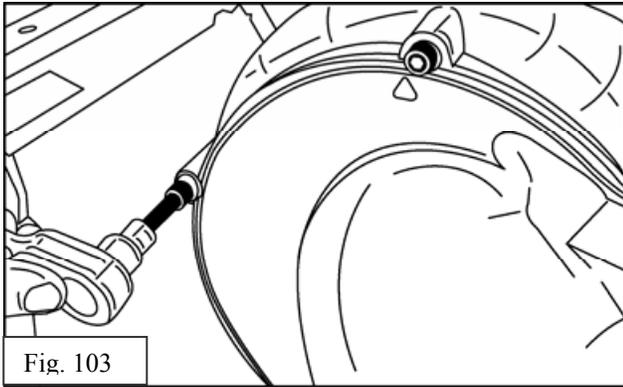

Fig. 103
NOTE: Use a small amount of motor oil or equivalent to lubricate the intake bore and O-ring surface interface prior to assembly. Be sure to align manifold so that all hoses are free from kinks and away from any sharp edges. Using the cast-in locator arrow, align arrow approximately with top fastener hole. See Fig 103. **Torque to 15 inch-lbs.**
- (n) Utilizing the 3 TRD supplied 6 x 1.0 x 16mm SHCS and three 6 mm flat washers, clamp down TRD inlet manifold to supercharger assembly. 5 mm Allen wrench. See Fig. 103.